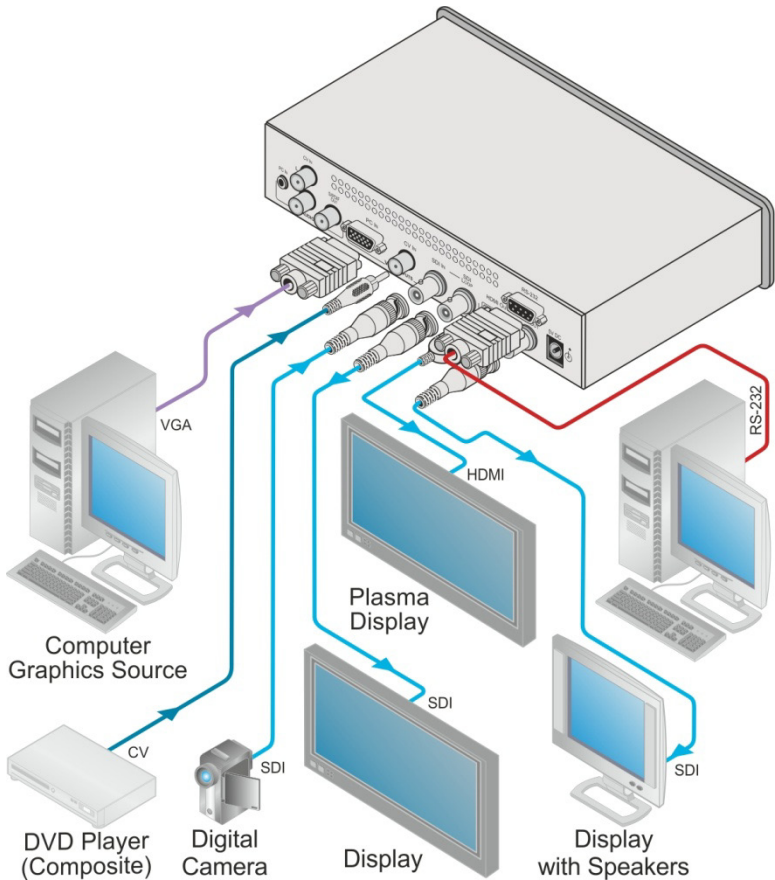

Figure 2: Connecting the VP-460 Video Scaler
To connect the **VP-460**, as illustrated in the example in Figure 2, do the following:
4. Connect the audio input signals to the AUDIO IN connectors: PC IN (3.5mm mini jack) and CV IN (RCA connectors), as required (not shown in Figure 2).
8. Connect the S/PDIF OUT RCA connector to an audio acceptor (for example, a receiver), not shown in Figure 2.
10. Connect the 5V DC power adapter to the power socket and connect the adapter to the mains electricity (not shown in Figure 2).